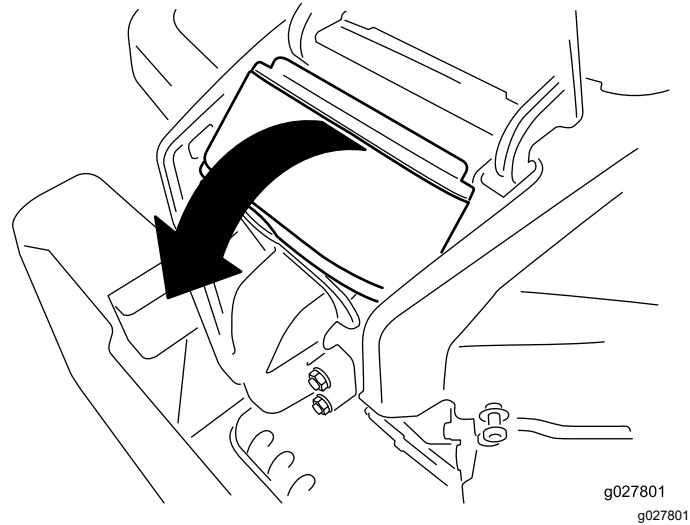

Figure 34
4. Lift the cover and rotate the air-cleaner assembly out of the engine (Figure 34).